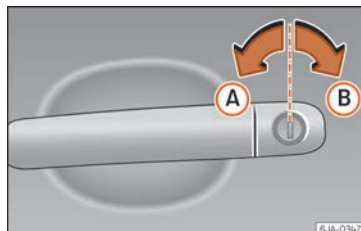

Fig. 121 Key positions during vehicle locking and unlocking.
- Turn the key in the driver door in the forward driving direction to its unlock position **A** »» Fig. 121.
- Turn the key in the driver door lock cylinder in the reverse direction to its lock position **(B)** »» Fig. 121.